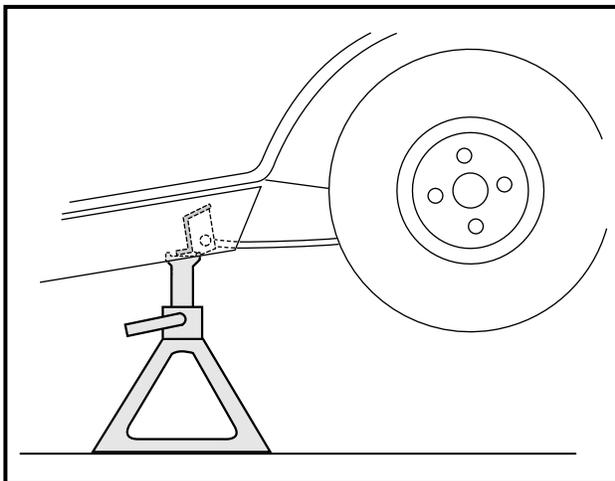

Figure 9-2 Support Vehicle on Jackstands
1. Loosen, but do not remove, lug nuts on tire and wheel assembly on the side from which the spring is to be removed. Place chocks at the front wheels and lift the rear of the vehicle with a chain hoist or floor jack. Position jackstands under the frame cross-member between the spring mount and the side stringer, just forward of each rear wheel. Lower the vehicle to let the jackstands support the vehicle (**Figure 9-2, Page 9-3**). See following **WARNING**.